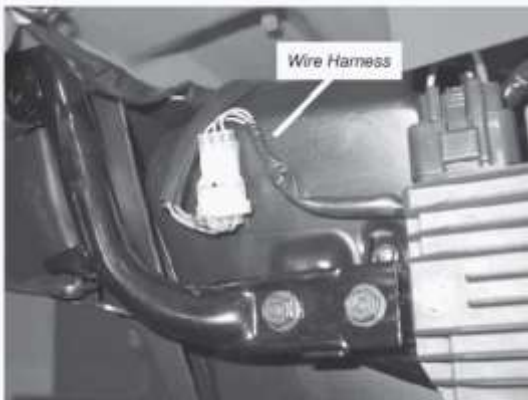

Figure 10 Remove Wire Harness from Bracket
- Remove the wire harness, “Figure 10”, from the bracket that holds the wire harness in position.